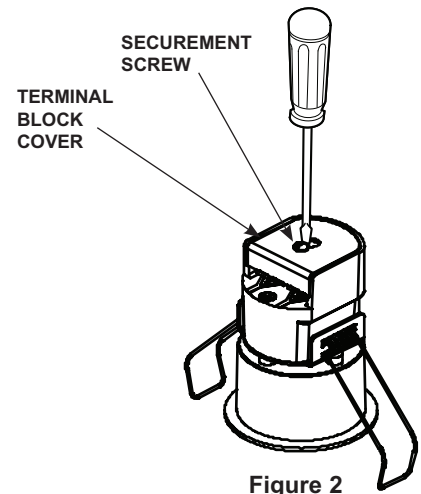
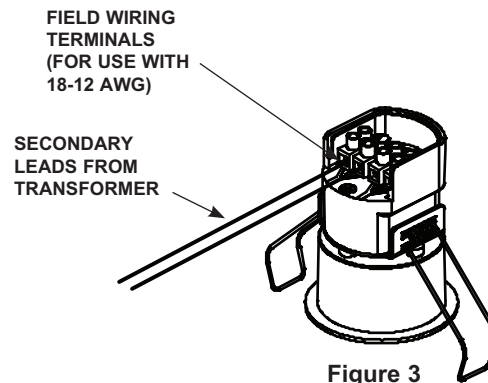

Figure 2
Figure 3
**Step 4.** Remove terminal block cover located atop fixture (Fig. 2). Insert the two secondary leads into adjacent terminals on the right or left side of the terminal block (Fig 3). (The remaining terminals are for daisy-chain wiring if desired.) Secondary wiring is not polarized. Tighten terminal block screws securely to retain wires. (4 In-lb minimum)